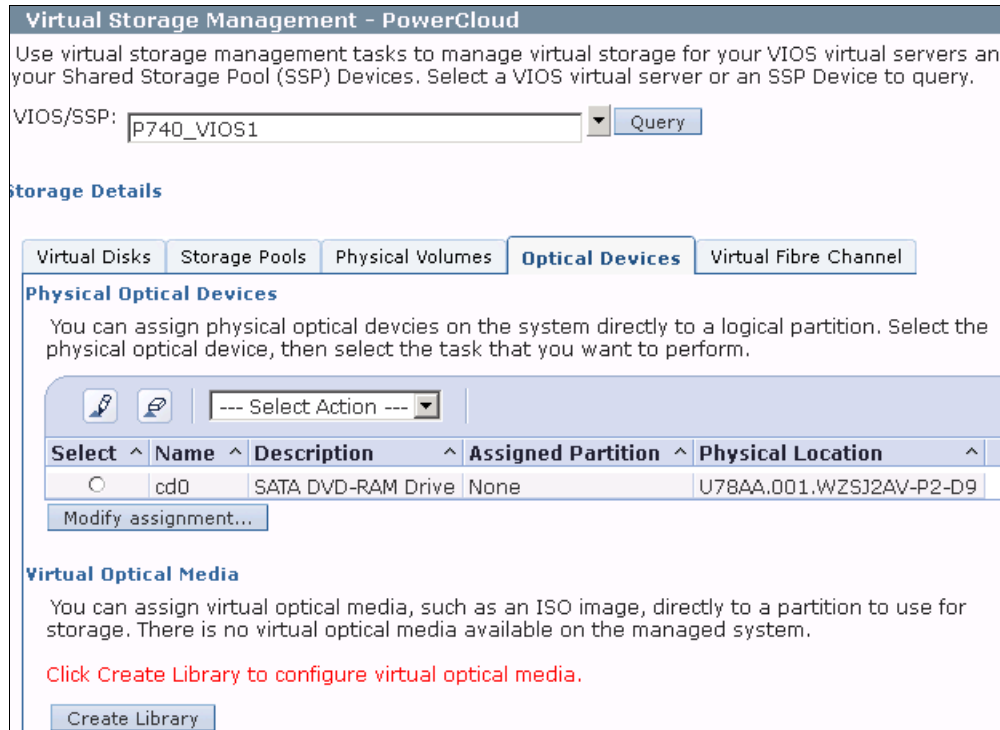

Figure 3-25 Managing optical devices
3. As shown in Figure 3-25 on page 89, click **Create Library** in the Optical Devices tab to add a new library.